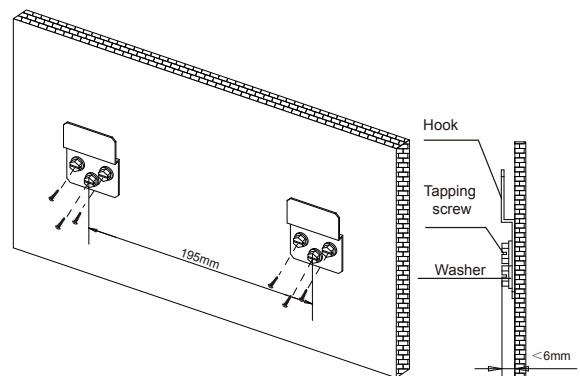

Figure 3.2
- Fix the hook with tapping screw onto the wall which can support the weight of the indoor unit. (Refer to Figure 3.2)